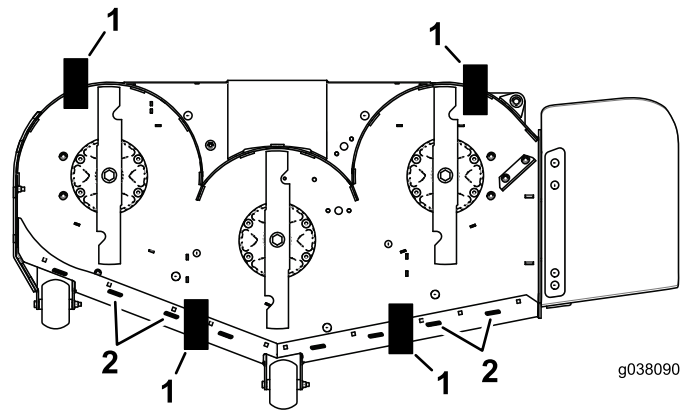

**Figure 103**
- B. Slowly loosen the adjusting screw on the lift-assist spring until you can remove the screw (see Figure 103).